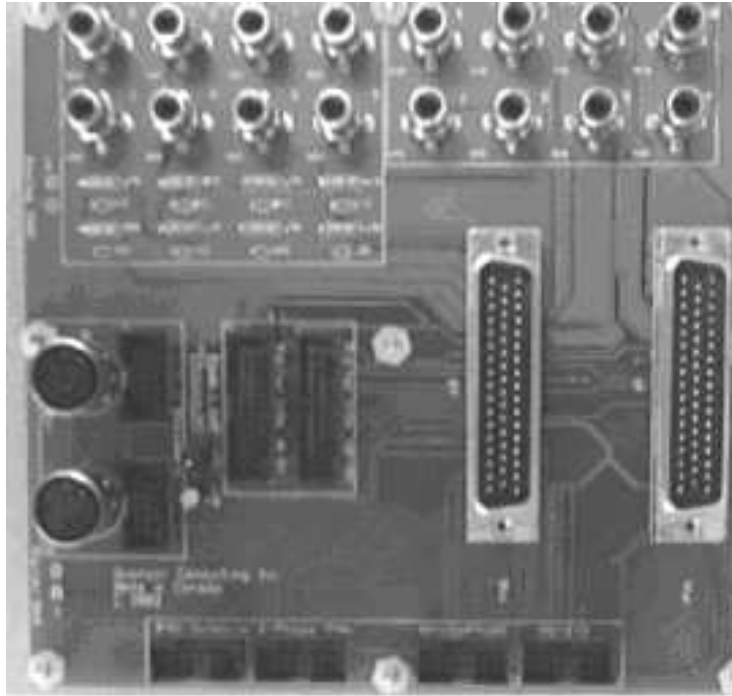

Figure 2: Quanser DS1104 Interface Board
Next, we consider the Quanser DS1104 Interface Board (green), which is used to interface signals directly to the dSPACE DS1104 card that we have inside the computer. This card is shown in Figure 2 and has the following characteristics:
- It has eight (8) analog inputs located in the top left of Figure 2.
- It has eight (8) analog outputs located in the top right of Figure 2.
- In the middle of the card, we can see the twenty (20) digital I/Os (Input/Outputs).
- Also in the middle, but in the left part of Figure 2, notice that there are two 5 Pin Din-stereo connectors and two other connectors (double row / straight sockets). These are for the encoders. If you are using the Quanser plants, and you want to connect directly to the encoder (as in the pendulum experiment),
- In the middle right of the card's picture in Figure 2, you have two SCSI 3 Female Connectors to interface the DS1104 Interface Board to the dSPACE data acquisition card. The one that is on the far right side (the outer one), should be connected to the cable labeled P1A in the dSPACE configuration, and the other one to the cable labeled P1B.
- Finally, in the bottom part of Figure 2, you have four sockets. The first one (the one which is on the left side) is for the PWM outputs. The next one (labeled J8 on the card) is for the 3-phase PWM. Lastly, the other two, labeled J6 and J7 (from left to right), are those used for SPI/CAPTURE, and RS-232 respectively.